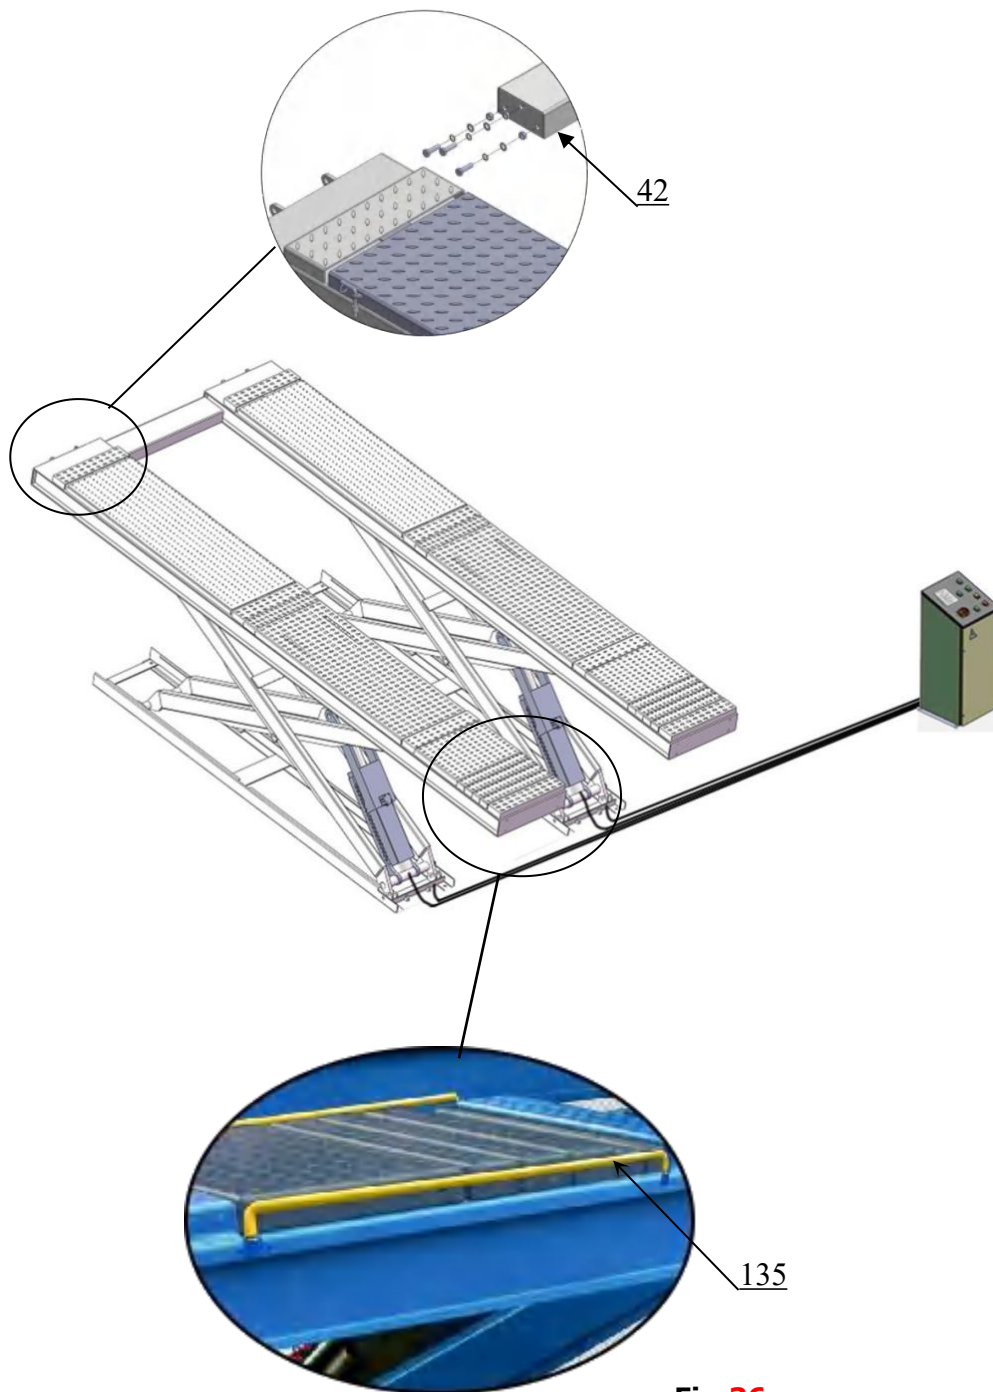

Fig.36
F. Install platform connecting bar, limit rod of turnplate adjusting block . (fig 36)